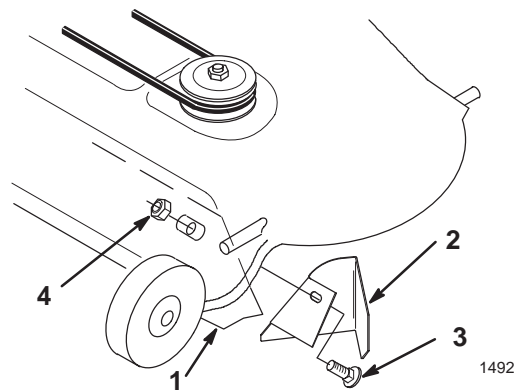

Figure 5
- On 42 in. mowers, secure the grass baffle (Fig. 5) with a carriage bolt (3/8 x 1 in.), washer (13/32 in.), and locknut (3/8 in.).